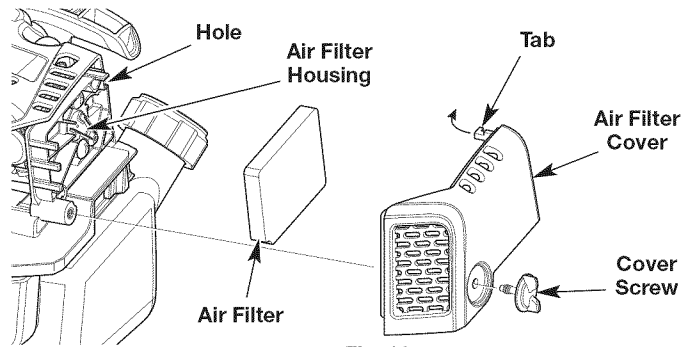

Fig. 22
1. Unscrew the cover screw completely. Swing the air filter cover to the right. Remove the air filter cover from the air filter housing (Fig. 22).
2. Remove the air filter from the air filter housing (Fig. 22).
6. Reinstall the air filter in the air filter housing (Fig. 22).
7. Insert the tab on the air filter cover into the hole on the air filter housing. Swing the air filter cover to the left. Push the air filter cover back onto the air filter housing. Insert the cover screw into the air filter cover. Tighten the cover screw to secure the air filter cover (Fig. 22).